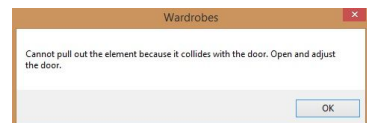

Fig. 134 - Information about a conflict between the pull-out drawer and a door
- **‘Pull out’** - option available for drawers and accessories; pulls out the selected item, beyond the front border of the wardrobe - if there is no collision with the door. In such case, you will be notified (Fig. 134). Usually it is enough to move the doors so as they do